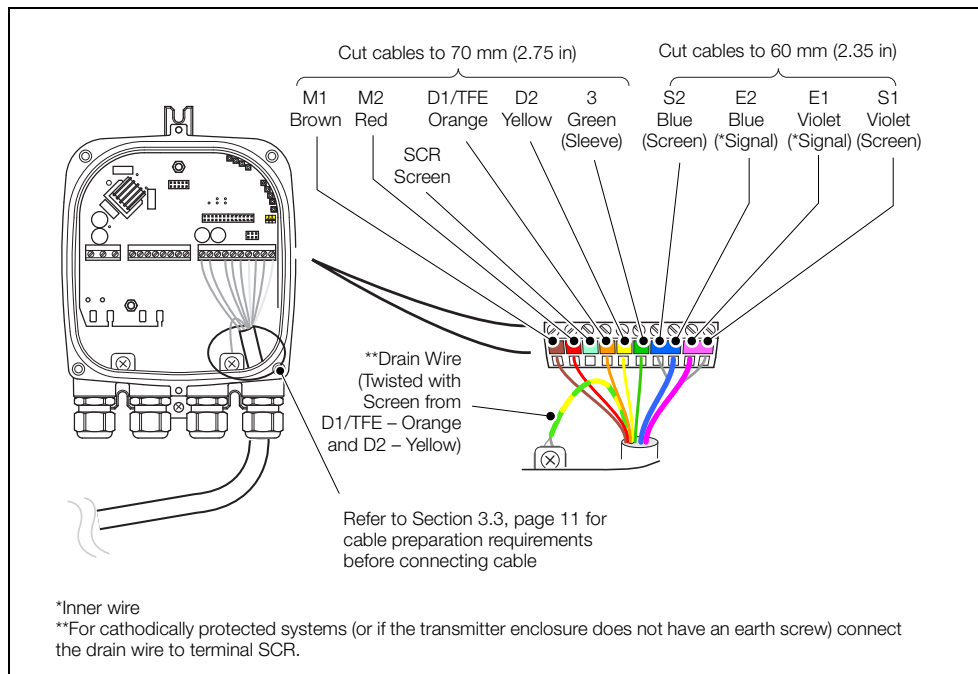

Fig. 3.5 Sensor Cable Connections at Transmitter Terminal Block – Standard System
3. Cut the cable connection wires to the lengths shown in Fig 3.5, page 12.